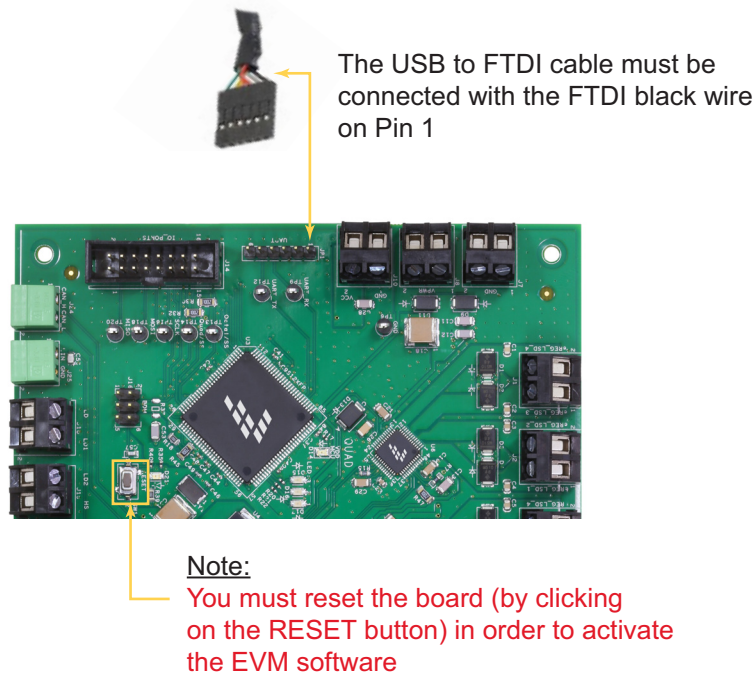

Figure 6. Connection to the PC
5. Connect the USB to FTDI cable with the USB plug connected to the computer and the FTDI plug to the board as shown in Figure 6: